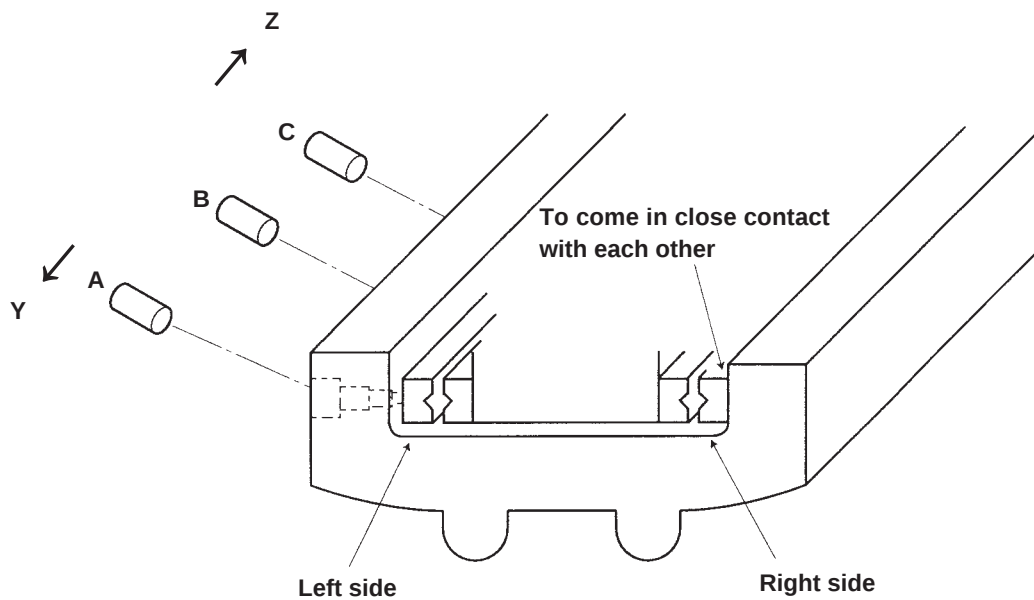

Fig. 2
2. Enter the cross roller which has been set to the machine bed and temporarily tighten six screws ③.
3. Apply pressure to pressing screws ④ in the cross roller to make the right side of the cross roller come in close contact with the end face of the machine bed, and fix the cross roller. (Fig. 2)
4. Loosen the pressing screws once and apply pressure again. At this time, when applying pressure, move base ⑦ to the position of pressing screws A, B, and C to apply pressure.
- When tightening pressing screw C, move base ⑦ to Z side.
- When tightening pressing screw A, move base ⑦ to Y side.